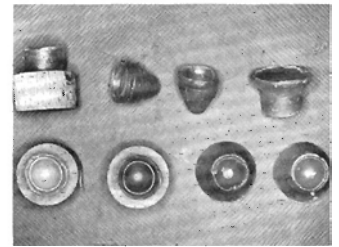

Figure 1. Commercially available queen cups of various types.
- Artificial queen cups. These are small cups of beeswax that duplicate the queen cups found in honey bee colonies, although the mouth is somewhat wider and deeper (fig. 1). They can be purchased quite cheaply or made to the correct dimensions with a small dipping stick. Some purchased queen cups come with wax bases so that they can be fixed to a cell bar. Those without wax bases are first attached to a wooden cell base, which is then attached to the cell bar. Plastic cups are also available commercially.